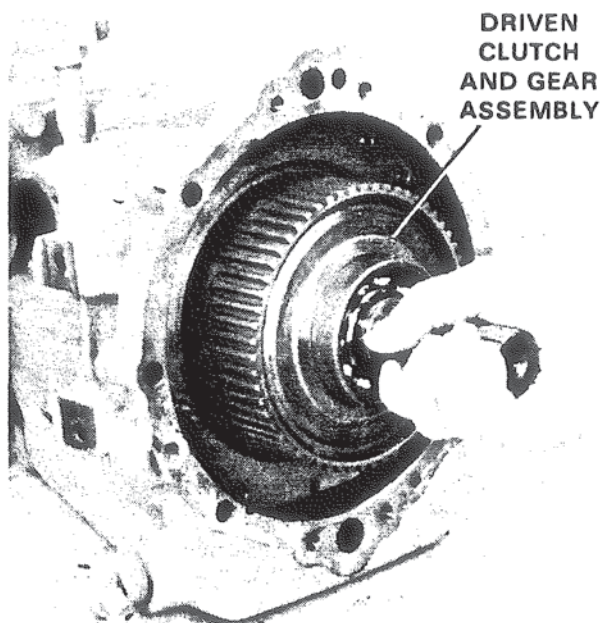
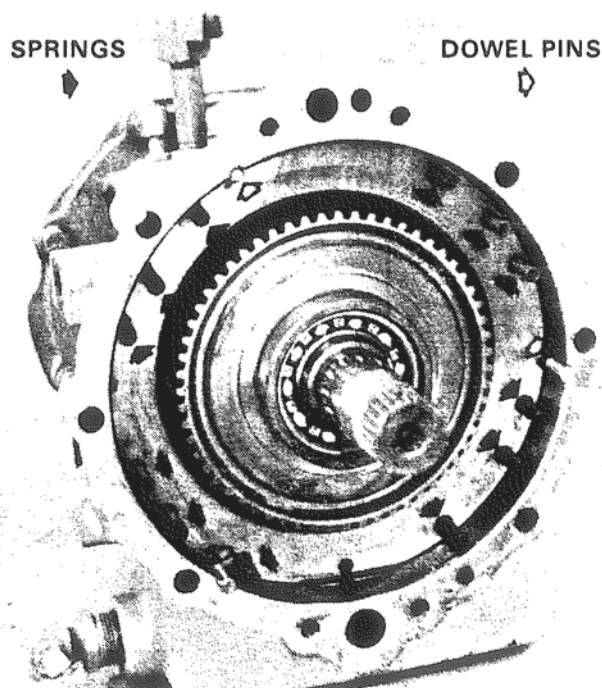

Figure 69. Installing Drive Gear and Clutch Assembly.
Figure 70. Installation of Twelve (12) Pressure Plate Springs and Three (3) Dowel Pins.
3. After lubricating the rear end of the drive gear and checking centered position of the thrust washer, install the drive gear and clutch assembly into the case and pinion cage and output shaft assembly. Figure 69. Care and proper centering must be exercised at this point to prevent damage to the bushings when the rear diameter of the drive gear enters the output shaft.
4. Install the twelve (12) pressure plate springs in the holes provided in the reverse clutch cavity. The holes should be free from dirt and all springs should be firmly seated.
5. Coat the three (3) dowel pins with petroleum jelly and assemble them in the three (3) grooves provided at the outside diameter of the reverse clutch cavity. Figure 70. Assembly is complete when the dowel pin is firmly seated on end and into the groove, as far as groove contour will permit.